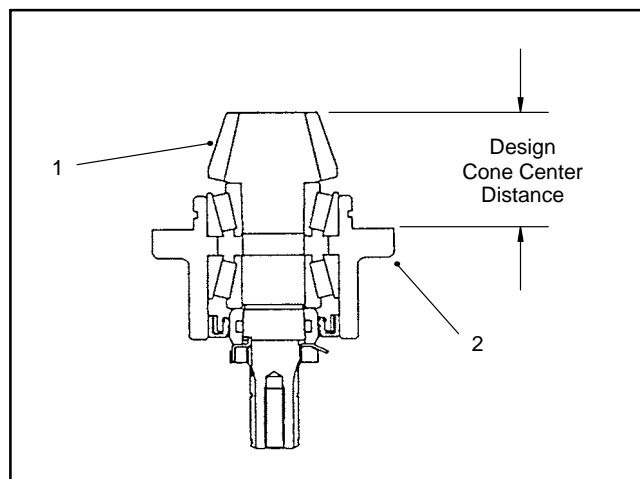

Figure 29
9. Use a depth gauge to measure the distance from the end face of the input shaft/pinion gear to the mating surface of the bearing case. Subtract the "Design Cone Center Distance" from this distance to determine initial shim thickness (Fig. 29).